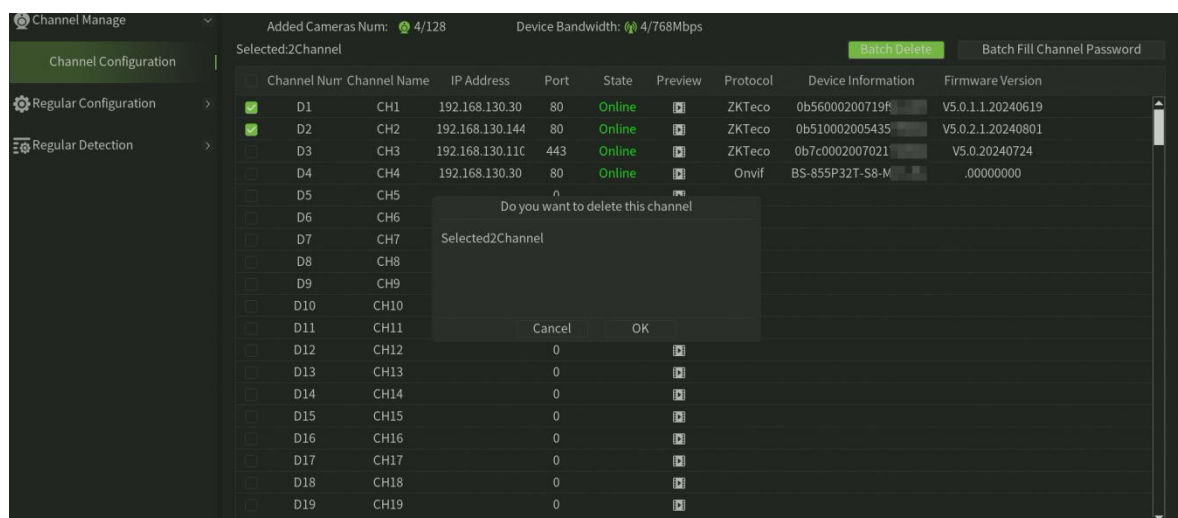

Figure 6.5 Batch Delete IP Camera
8. After adding the IP Camera, if you want delete some channels ,you can select the check -box of channels and then click the Batch Delete button and click OK button to confirm,as shown in figure 6.5.